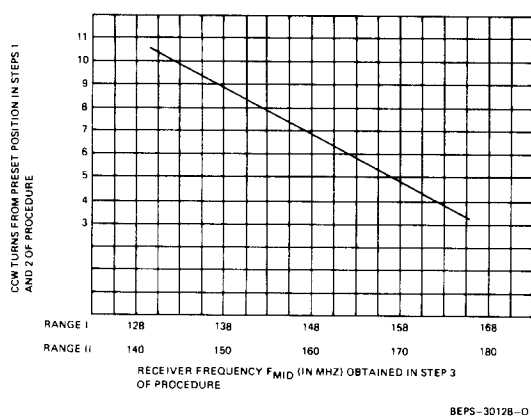

Figure 3. Coils Adjustment Graph
Step 8. Adjust L5 (quad coil) until maximum noise level is obtained from the speaker. Set the slugs of L01, L02, L03, RF1, RF2, RF3, RF4, and RF5 in accordance with the instructions provided in the graph of Figure 3.
Step 6. Adjust L5 (quad coil) until maximum noise level is obtained from the speaker. Set the slugs of L01, L02, L03, RF1, RF2, RF3, RF4, and RF5 in accordance with the instructions provided in the graph of Figure 3.